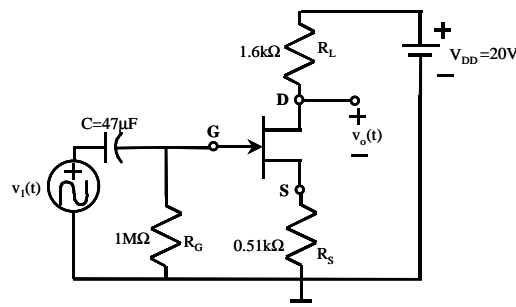

Figure 3.
- C. Construct the circuit of Figure 3, basic AC amp, with  $v_1(t) = 1.0 \sin 2\pi(1000)t$  V, measure  $v_0(t)$  and determine  $v_0(t)/v_1(t)$ . Compare to the value obtained from the small signal model.